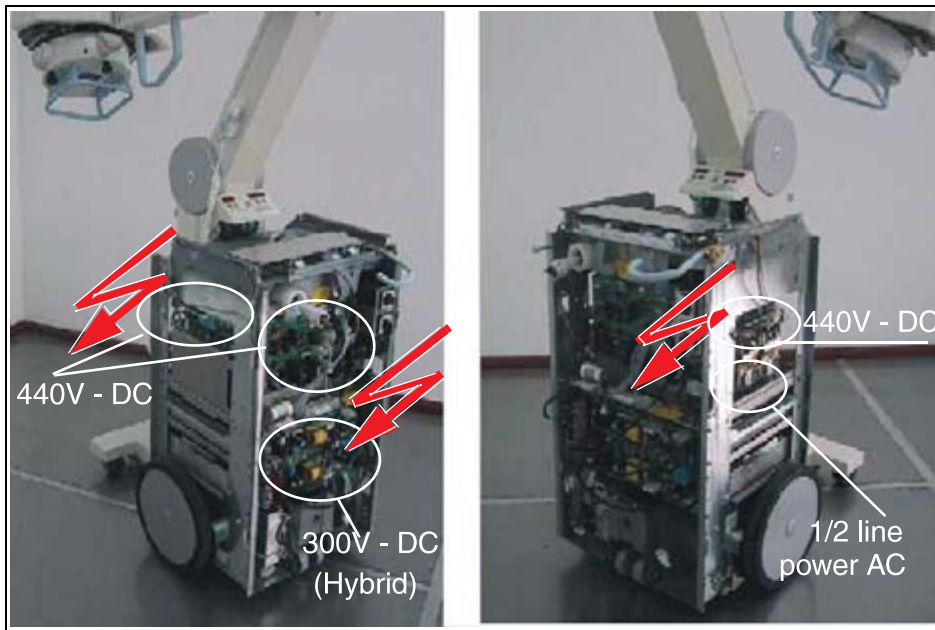

Fig. 2: Locations with dangerous voltage
- ⇒ Do not touch potentially dangerous components (Fig. 2 / p. 10)
- Prior to performing any work, it must be verified that areas with dangerous voltage are voltage-free (Fig. 2 / p. 10).